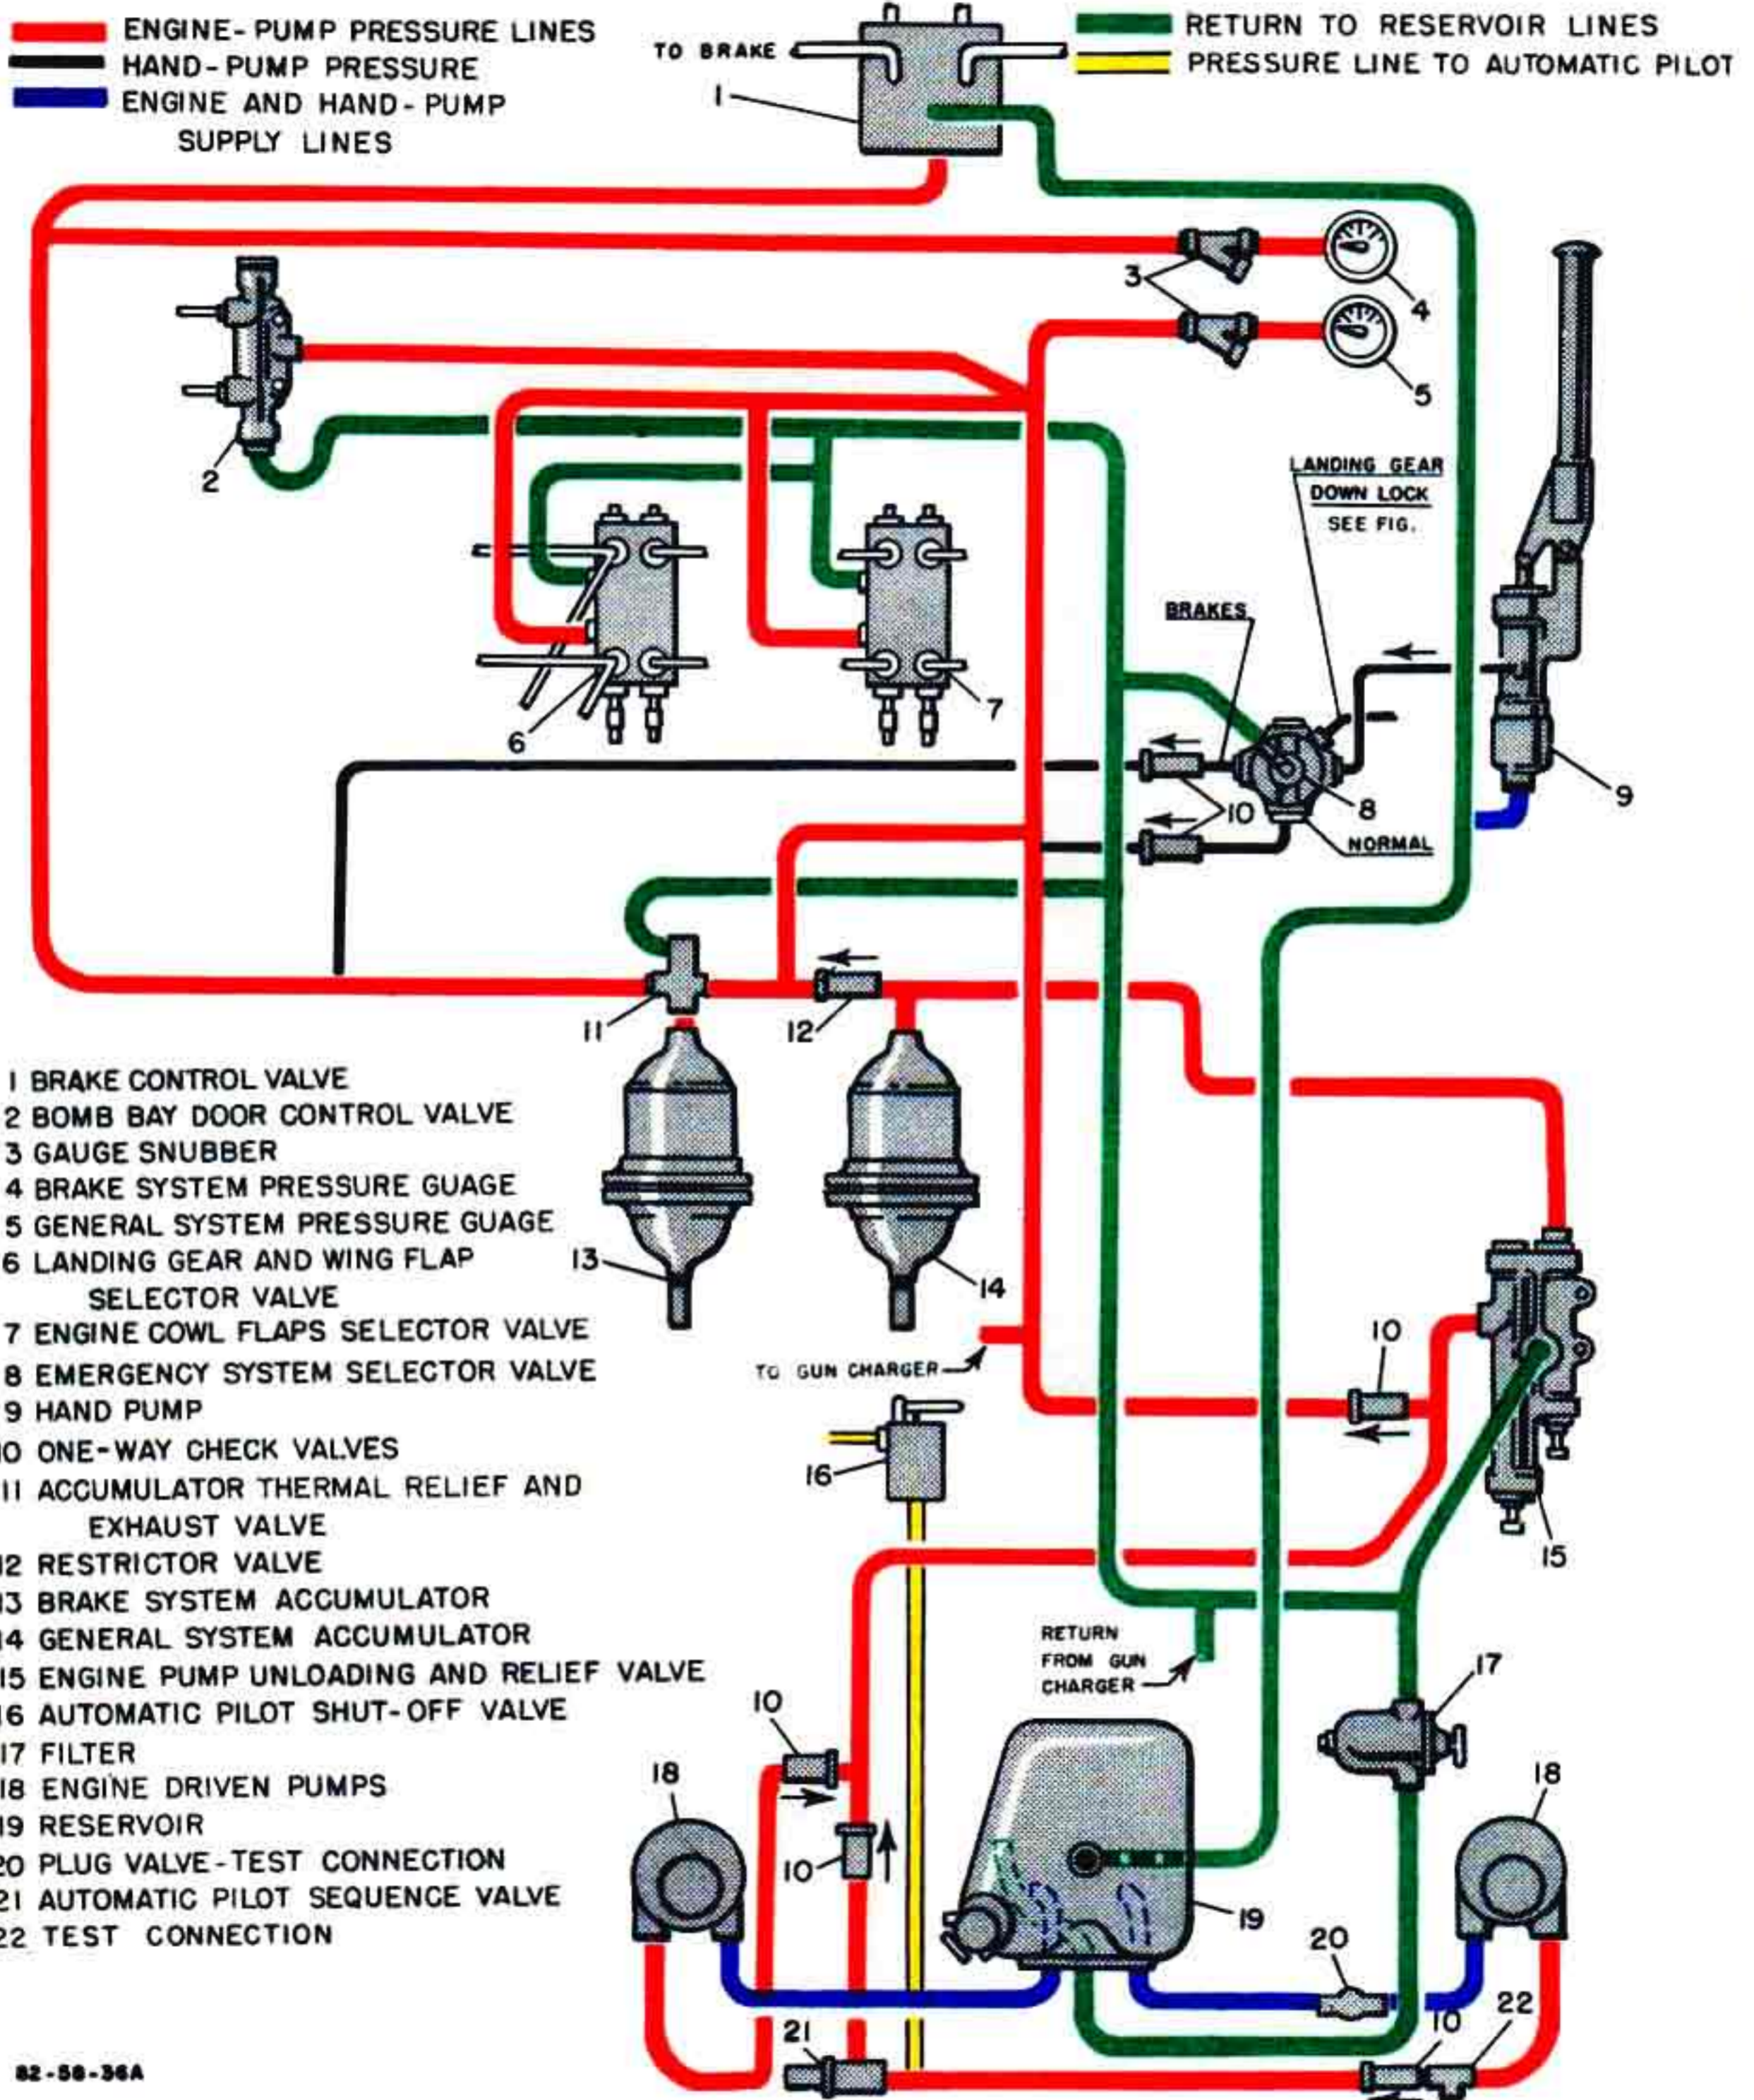

Figure 3—Hydraulic Power System
a. NORMAL.—A single high-pressure system operates the tricycle landing gear, wing flaps, engine cowl flaps, bomb bay doors, and brakes. (See figures 3, 4, and 5.) If one of the engine-driven hydraulic pumps fails, the other will provide sufficient pressure for the operation of the hydraulic system.